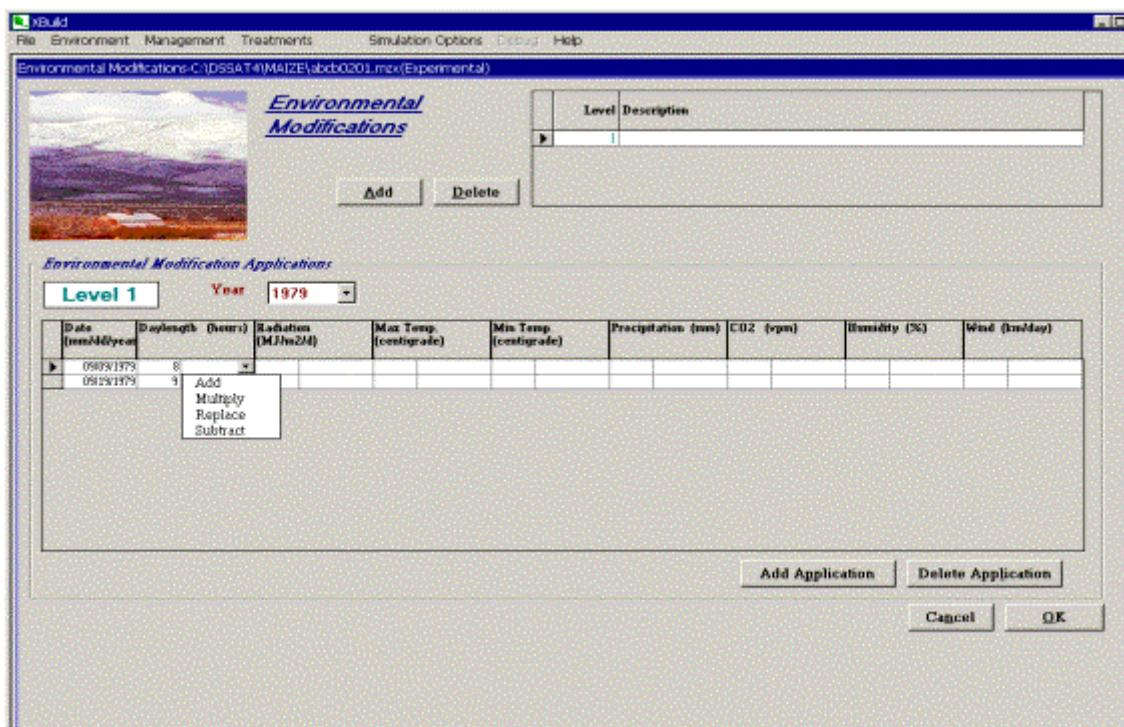

Figure 12. Edit the Environmental Modification Screen.
The **Environmental Modifications** menu option allows users to set or change weather conditions for the crop simulation (Figure 12). This screen allows users to modify up to 8 different environmental variables for simulation. These environmental variables and their units are: Daylength (hour); Solar radiation ($\text{MJ m}^{-2} \text{ day}^{-1}$); Maximum daily temperature ($^{\circ}\text{C}$); Minimum daily temperature ($^{\circ}\text{C}$); Precipitation (mm); (6) CO_2 (vpm); (7) Humidity (%); and (8) Wind speed (km d^{-1}).